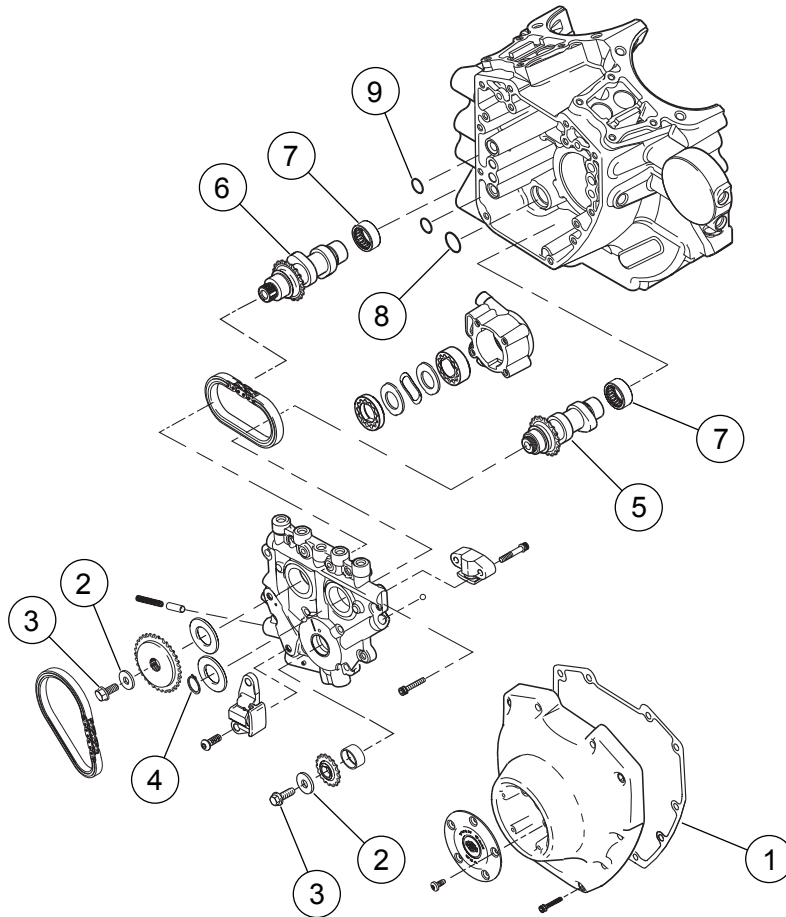

Figure 3. Service Parts: Screamin' Eagle Pro TC 103 (1690 cc) Stage 3 Kit
See Figure 1 to Figure 3, and Table 1 to Table 3.
1. See Figure 3. Inspect camshaft needle bearings (7) and replace if necessary.
2. See Figure 1 through Figure 3. Assemble cams to camplate, performance valve springs to cylinder heads and engine top end using parts from kit. Refer to appropriate ENGINE sections in service manual.